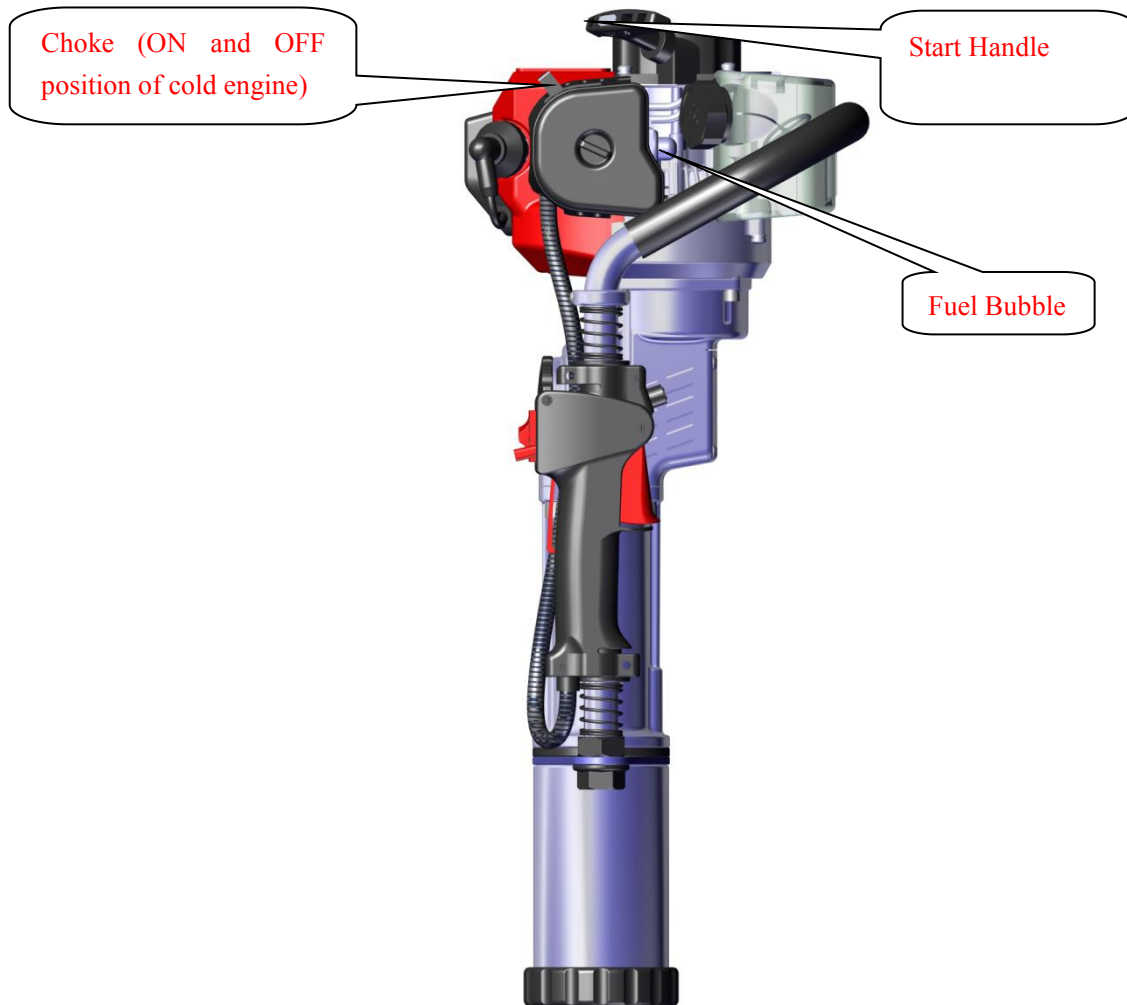

Fig 4
5.1. Before starting the new machine, press the transparent and semi-circle **fuel bubble** repeatedly (Fig.4) until carburetor is filled with fuel. (If the engine is cool, close **the air door**. Open **air door** after starting.)
5.2. Set the machine upright according to Fig. 4. Hold the upper part of the handle tightly with one hand while the other pulls the pulling handle of starter for over 50cm quickly. Do not let the pulling handle go back freely in repeated pulling but hold it tightly to avoid injury resulting from quick resilience.